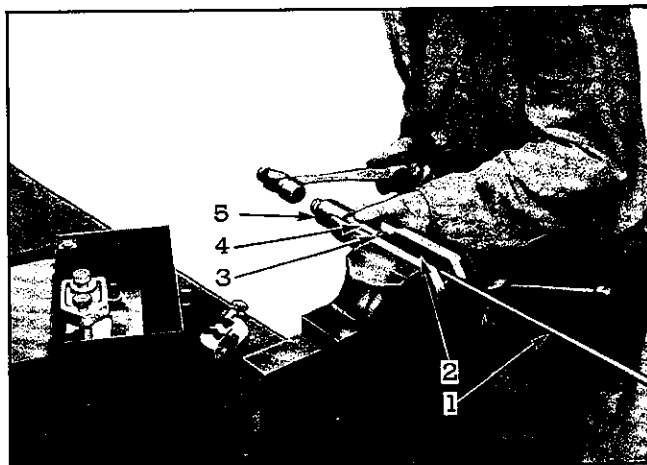
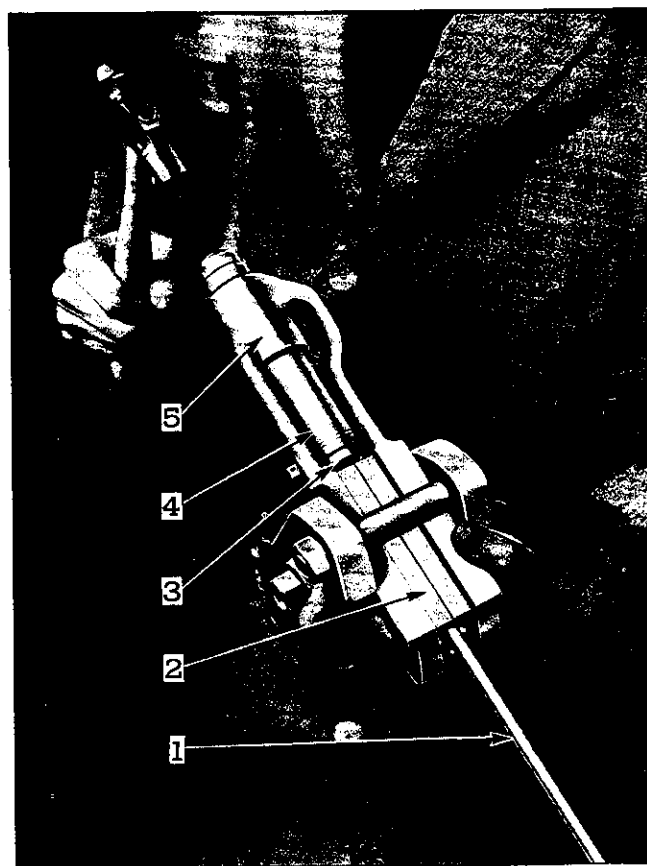

Fig. 10—Flaring Tubing with Tool Supported in Vise.
Fig. 11—Flaring Tubing with Tool Supported by Hand.
Description—Should occasion require, tubes with $\frac{3}{16}$ ", $\frac{1}{4}$ ", $\frac{5}{16}$ " and $\frac{3}{8}$ " outside diameters may be flared at the ends to accommodate flared fittings with the tool illustrated in Figs. 10 and 11.
When flaring a tube, the tool may be either clamped in vise jaws to hold the die block in the tool body as shown in Fig. 10 or held by hand as shown in Fig. 11.
- (a) Place tool in vise as shown in Fig. 10 so that the ledges on the sides of the tool ride on the top edge of the vise jaws and against small pin located at side of tool.
- (e) Slide J-1885-SA-5 Clamp Assembly over body of tool as shown in Fig. 11.